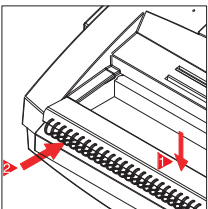

Figure-5
2. Put the wire comb under the press sheet as shown figure-5.